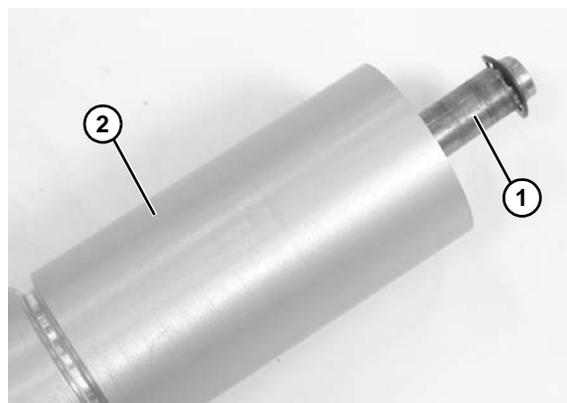

Figure 78
- Slide the shaft assembly (**Figure 78, item 1**) out of the pulley (**Figure 78, item 2**).